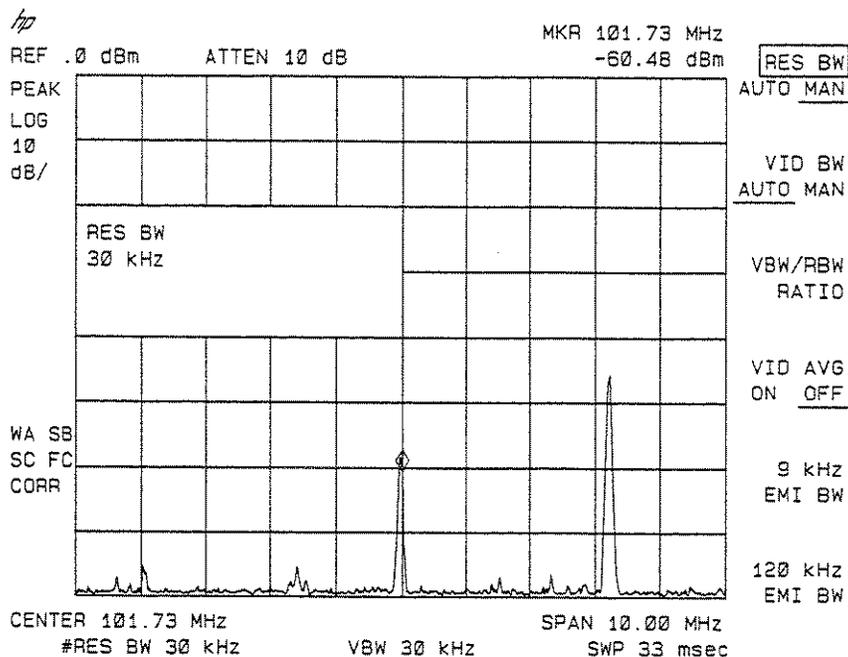

Figure 2-18. Decreasing Resolution Bandwidth
2. Press **BW**, **▼**. The low-level signal appears more clearly because the noise level is reduced. See Figure 2-18.